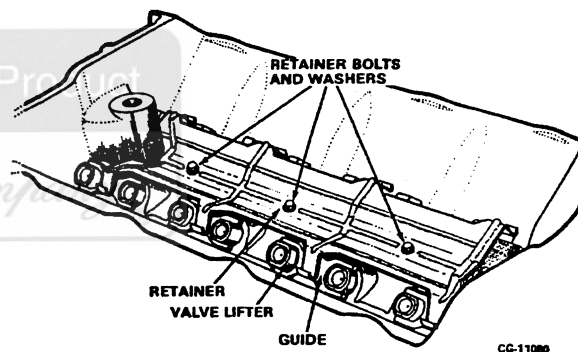

Figure 4.3. Valve Lifter Guide Retainer Removal
1. Remove the valve lifter guide retainer (Figure 4.3), by removing the three bolts and washers which fasten it to the block.